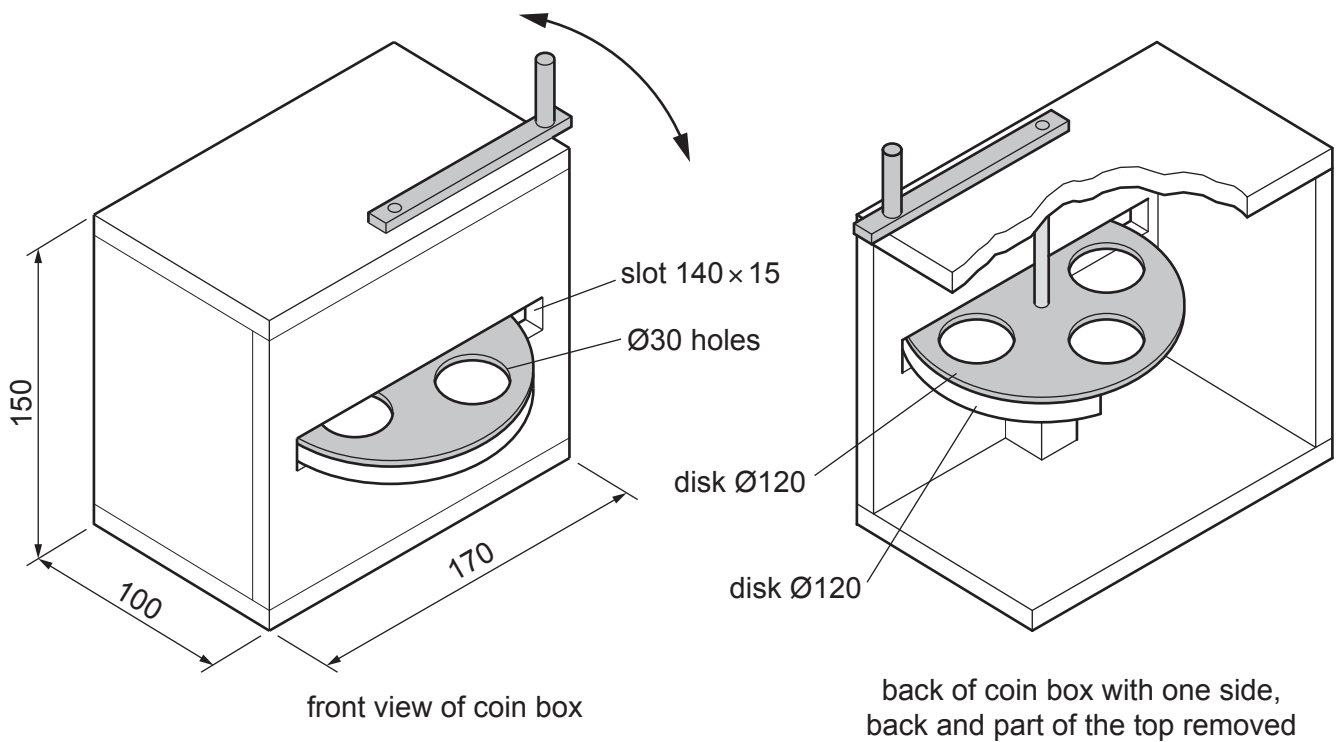

Fig. 12.1
- 12 Fig. 12.1 shows views of an incomplete design for a coin box used by children. The coin box is made mainly from MDF. Coins are placed in the  $\text{Ø}30$  holes, the handle is turned, the top disk rotates and coins fall into the box.